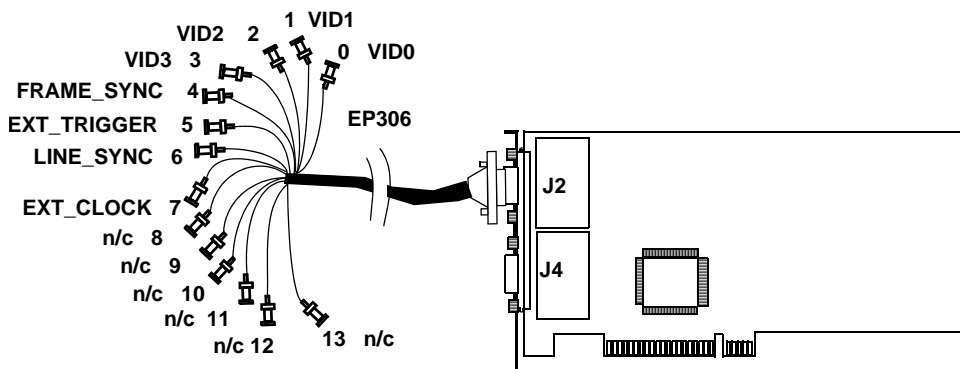

Figure 4: Connecting the EP306 Cable Assembly to Connector J2
1. After making sure power to the computer is off, push the 15-pin connector of the EP306 cable into the J2 socket at the rear of the DT3152 board, as shown in Figure 4, and tighten the screws on the connector.